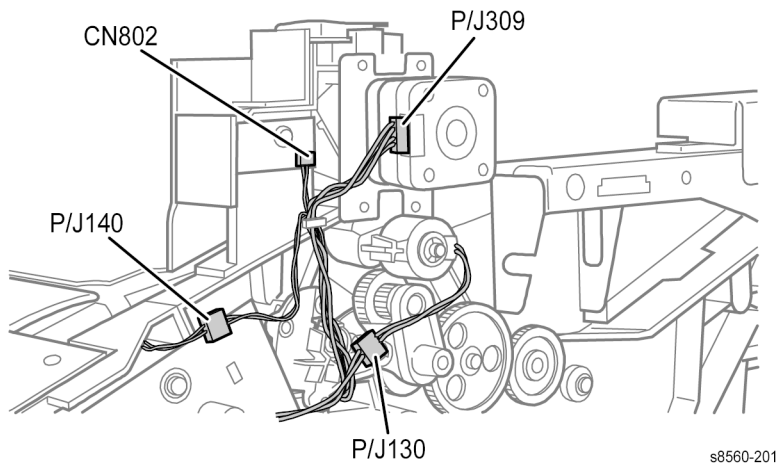

Figure 3 Exit Module Harness Connections
8. Disconnect these connections. See Figure 3: